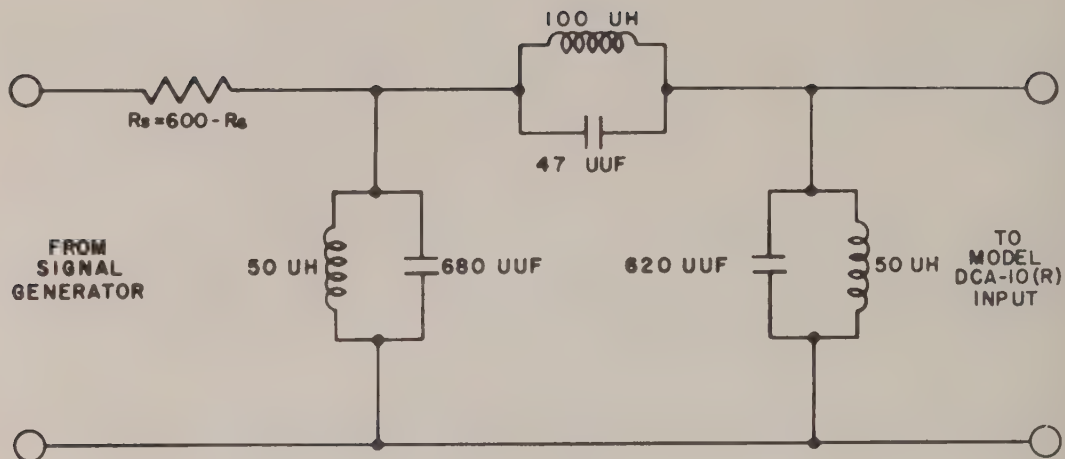

Figure 6 - Band-Pass (Purifying) Filter for Obtaining a Pure 1 mc Signal
Since the typical Model DCA-10 Amplifier distortion at 1 mc is approximately 2-3%, a signal generator with less than 1% distortion is required for this measurement. If a generator with this distortion specification is not available, a band-pass (purifying) filter, shown in Figure 6, can be constructed to obtain a suitable distortion-free 1 mc source.
- a. Sine-wave generator of approximately 10 volts rms maximum output at 1 mc with less than 1% distortion. If a generator with less than 1% distortion is not available, the purifying filter, shown in Figure 6, must be used. Since the filter has a gain of approximately five, a generator with approximately 2 volts rms output at 1 mc is sufficient.
of the sine-wave generator is less than 1%. If the distortion of the 1 mc source is greater than 1%, which is true for most commercial generators, insert the purifying filter, shown in Figure 6. This filter is designed to operate with a 600 ohm source. If the sine-wave generator has an internal impedance of 600 ohms, no additional series resistor, R_s , is required. If the generator source impedance is lower than 600 ohms, it is necessary to add a resistor so that the sum of R_s and the generator source impedance is equal to 600 ohms.